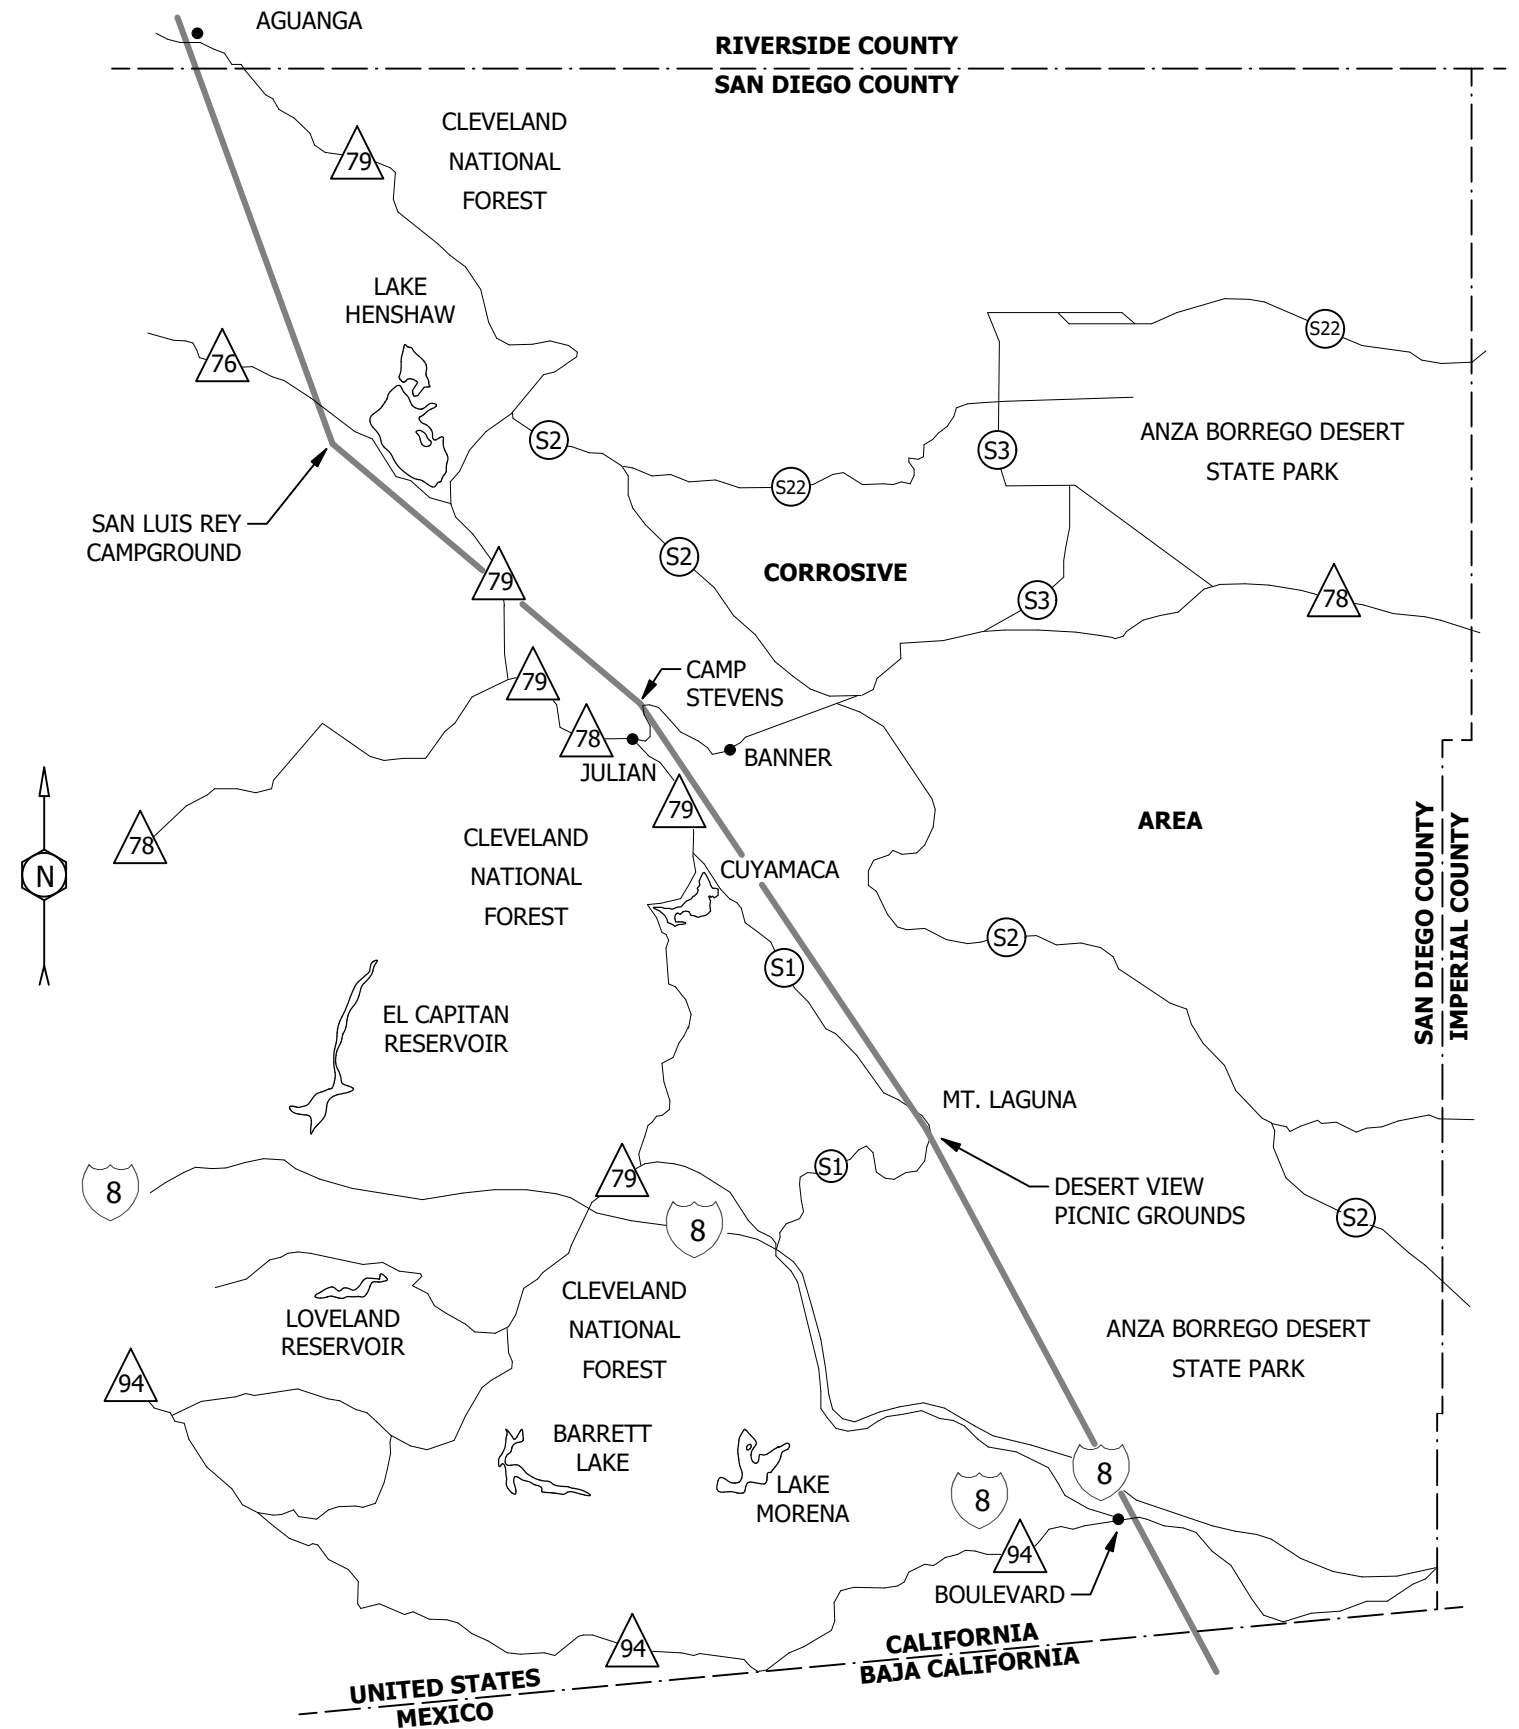

FIGURE 3
- (A) EYE OF ANCHOR ROD SHALL BE INSTALLED 12 INCHES ABOVE GROUND LEVEL IN AREAS WHICH HAVE DRIFTING SAND, ELSEWHERE 6 INCHES IS SUFFICIENT.
- (B) PROTECTED ANCHOR PLATES AND ANCHOR RODS ARE FURNISHED SEPARATELY BY STOREROOM. THE PLATES ARE EPOXY COATED AND THE RODS ARE PROTECTO TAPE WRAPPED. THEY WILL BE ISSUED AS A KIT, TO BE ASSEMBLED AT THE JOB SITE.
- (C) ANCHOR PLATE TO BE DOUBLE NUTTED ON ROD.
- E. AREAS HAVE BEEN DECLARED "CORROSIVE" AS A RESULT OF OPERATING EXPERIENCE. PROTECTED ANCHORS ARE REQUIRED IN THE CORROSIVE AREA EAST OF THE LINE ON **FIGURE 3**. PROBLEM AREAS HAVE ALSO BEEN OBSERVED IN THE METRO, BEACH CITIES, AND NORTH COAST OPERATING DISTRICTS. AS THESE AREAS ARE DEFINED, THEY WILL BE ADDED TO THE MAP AND IDENTIFIED AS CORROSIVE POCKETS.
- (F) ONLY UNSECTIONALIZED ANCHOR GUYS THAT ARE EXPOSED TO 22.5KV OR MORE ARE REQUIRED TO BE GROUNDED (SEE G.O. 95, RULE 56.6-D). IF GROUNDED IS REQUIRED ON PROTECTED CROSSPLATE ANCHORS, REFER TO DRAWING TB 3204.0, AVAILABLE FROM TRANSMISSION ENGINEERING. (a)